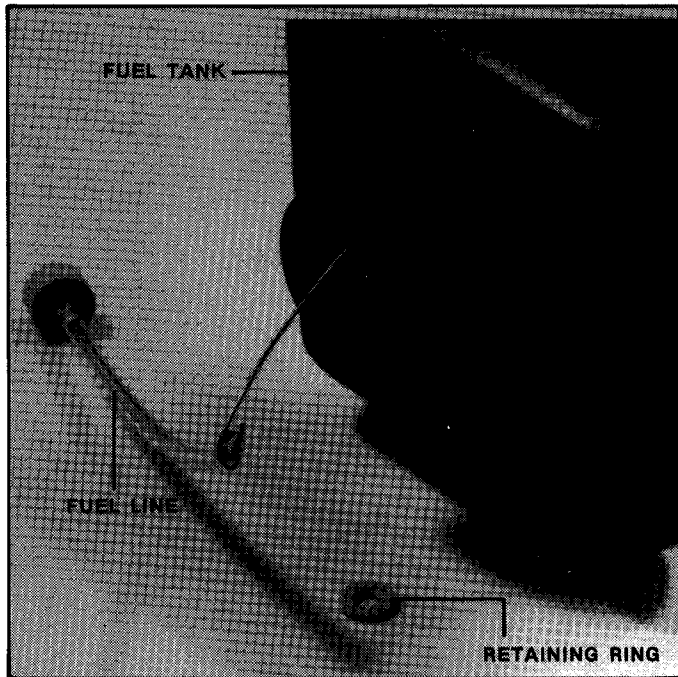

FIGURE 4.3
B. For re-assembly the replacement fuel line and filter are already assembled together. To re-install the line and filter form a loop in a length of small diameter stiff wire and pass the loop through the bottom hole of the tank and out through the fill neck. Insert the tip end of the line inside the wire loop and draw the wire through the bottom hole seating the filter base inside the tank. See Figure 4.3.